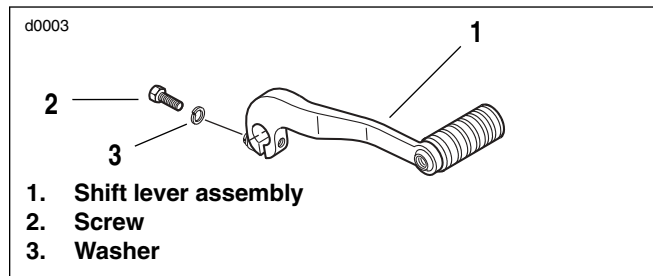

Figure 5. Shift Lever
- b. See Figure 5. Using a felt marker or grease pencil, mark position of shift lever (1) on shift shaft. Remove screw (2), washer (3) and shift lever.